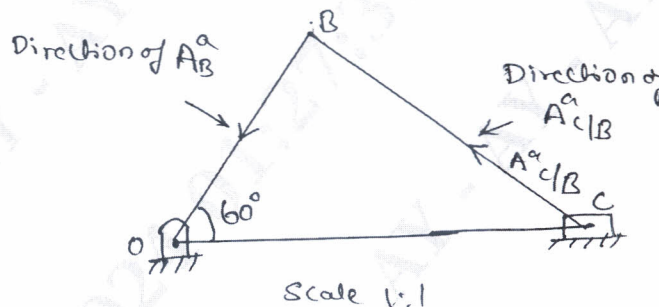

Fig.Q.3(a)
- 3 a. In a Slider crank mechanism, the crank $OB = 30\text{mm}$ and the connecting rod $BC = 120\text{mm}$. The crank rotates at a uniform speed of 300RPM clockwise. For the crank position shown in Fig.Q.3(a), find